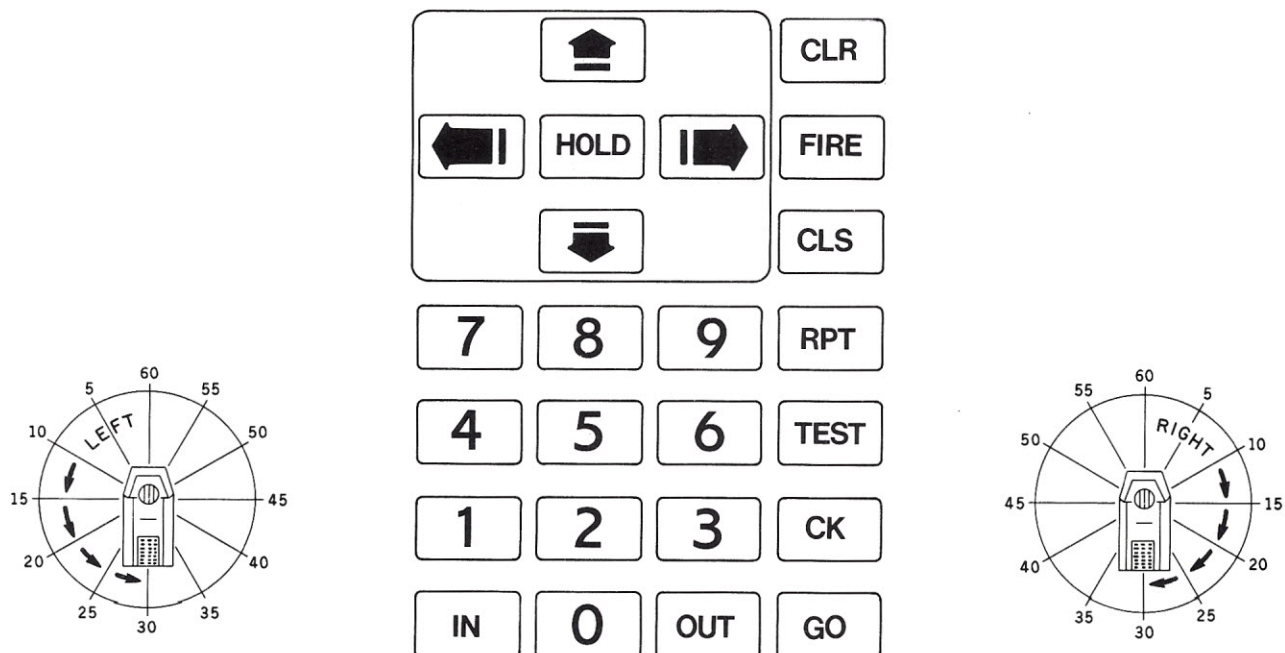

Figure 5: Keyboard of Big-Trak. To the right and left are compass points for use as a guide when keying in *right turn* and *left turn* length units.
Let's look at the instructions. Figure 5 is the layout of the keypad used for input.
**→** The *turn right* command directs the system to spin right a specified number of units. The unit number approximations are shown in figure 5.